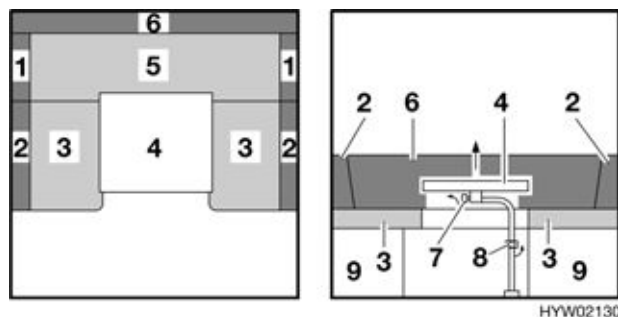

Fig. 90 Prior to conversion
- Loosen the fixing screw (Fig. 90,7) at the bottom of the table and lift the table-top (Fig. 90,4).
- Loosen the fixing screw (Fig. 90,8) for the table leg, pull the table leg upwards and out of the holding device.